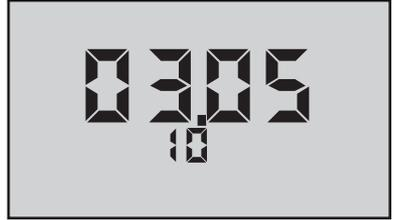

Figure 12
Example shown in Figure 12 is in US format, i.e., mo/dy/yr.
2. Press  repeatedly until the date is displayed (scrolling through stored readings, PC OFF, CLR ALL and time to the date, e.g., **03.05.10** (Figure 12), March 5, 2010).